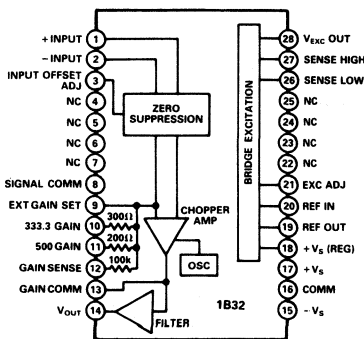
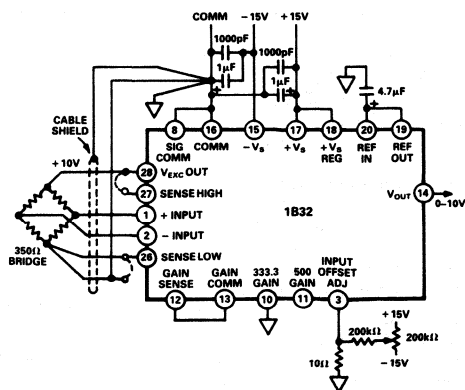

Figure 1. 1B32 Block Diagram and Pinout
Figure 2. Internal Gain Strapping
As shown in Figure 1, the gain can be pin-strapped by an internal resistor network. Standard gains of 333.3 and 500 can be achieved by this method with gain tempo of  $\pm 6ppm/^{\circ}C$  max. Finally, the offset adjust of the amplifier is input referred, and requires a voltage input similar to the differential input voltage to implement wide range suppression.
**Gain Setting:** The differential gain of the 1B32 can be either pin-strapped or programmed externally with two resistors. The internal thin-film gain network (Figure 1) provides gains of 500 and 333.3 for standard load-cell sensitivities of 2mV/V and 3mV/V. This is achieved by connecting GAIN SENSE (Pin 12) to GAIN COMM (Pin 13) and grounding Pin 10 or Pin 11 (Figure 2). The gain tempo using the internal network is an excellent  $\pm 2ppm/^{\circ}C$  typ ( $\pm 6ppm/^{\circ}C$  max).
**Offset Adjustment:** The input-referred offset adjust has the same sensitivity as the inputs of the 1B32. The voltage level at INPUT OFFSET ADJ (Pin 3) is gained by the same factor as the input signal to provide a  $\pm 10V$  output adjust. Figure 2 shows an external network and potentiometer set up for a  $\pm 7.5mV$  span at the input, which gives a  $\pm 2.5V$  ( $7.5mV \times 333.3$ ) output adjust capability. Wider ranges can be chosen with the appropriate resistor and potentiometer values.
The remote sensing inputs should be connected to the transducer separately from the excitation leads or jumpered as shown in Figure 2. The resistance of the excitation and sense lines should not exceed 10Ω.
**Power Supply:** The  $V_S$  REG input (Pin 18) should be connected to + $V_S$  (Pin 17) even if the bridge excitation section is not used. Also the power supplies should be decoupled with 1μF tantalum and 1000pF ceramic capacitors as close to the 1B32 as possible (Figure 2).